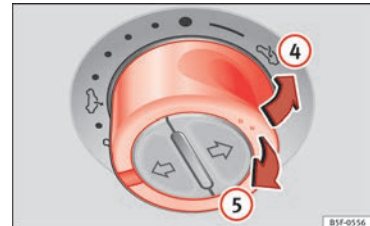

Fig. 12 On the interior roof lining: press the button and pull on it to raise and lower the sunroof.
- To tilt open: Push the switch to position » » » **Fig. 12** ④. For an intermediate position, hold down the switch until you reach the desired position.
- Lowering: Pull the switch to position » » » **Fig. 12** ⑤. For an intermediate position, hold down the switch until you reach the desired position.